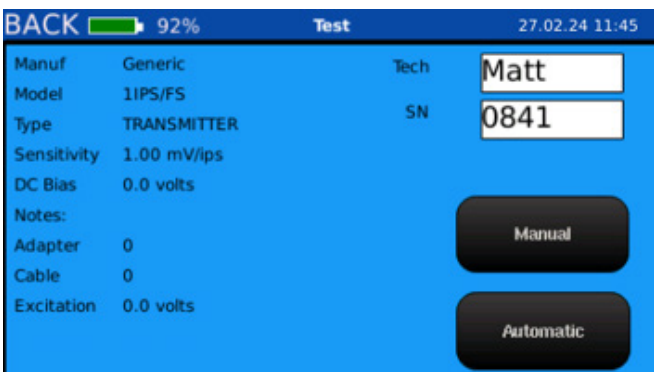

Figure 40. Sensor profile screen
- 6. Select the **Manual button** or **Automatic button** on the sensor profile screen (Figure 40).